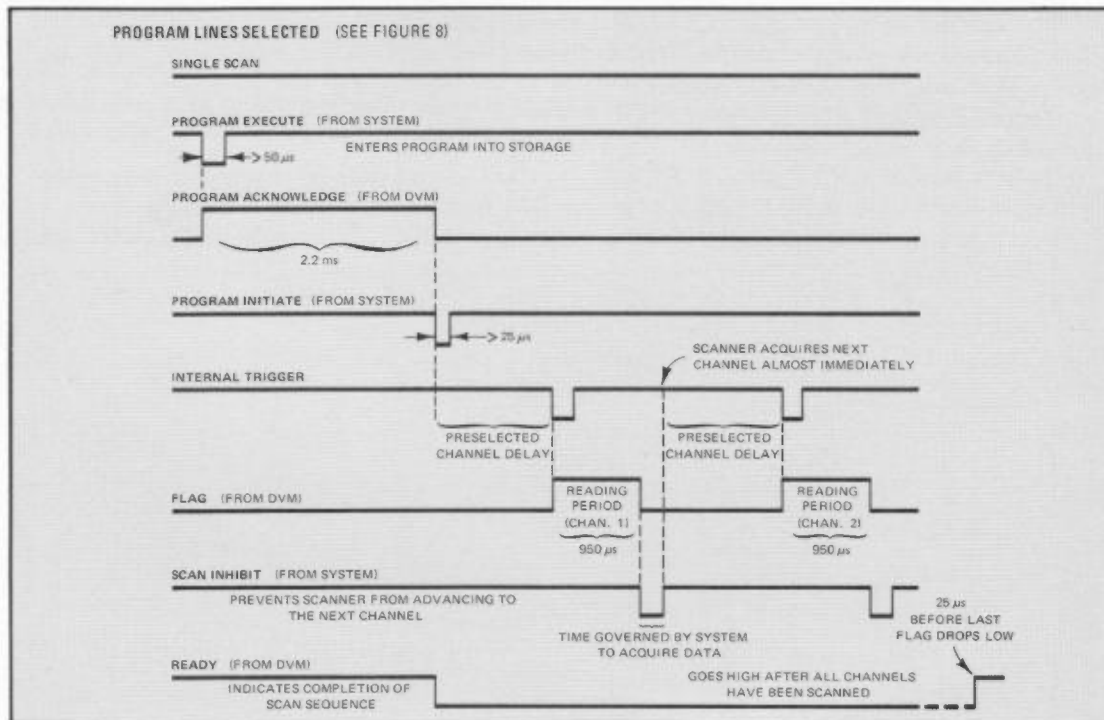
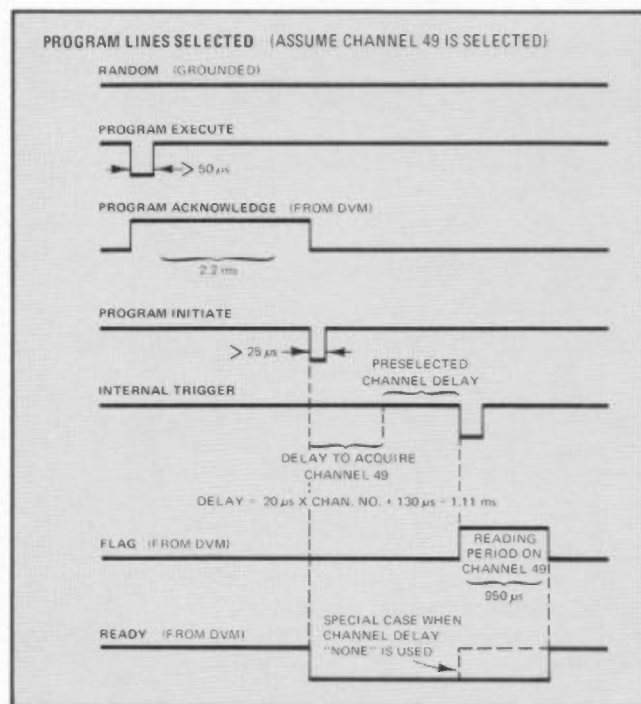

FIGURE 7
FIGURE 8
- PROGRAM INITIATE starts the scan sequence. READY indicates when a sequence has been completed. Figure 7 gives an example in the SINGLE SCAN mode and Figure 8 shows operation in the RANDOM mode.